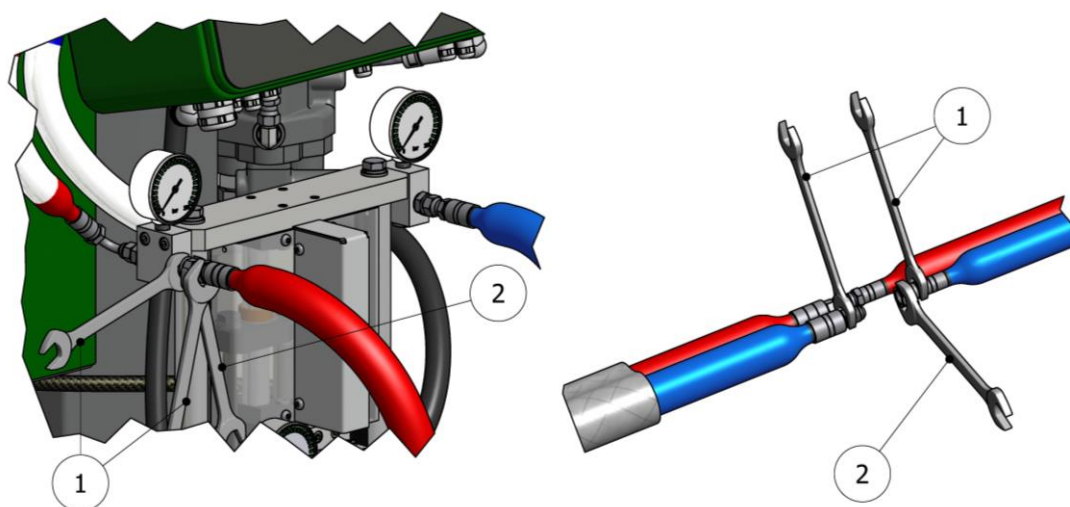

Figure 3. Hose coupling method
WARNING! To join hoses to each other, to the heaters, or to the gun, hold each hose end in place with a spanner (1), and with a third spanner tighten or loosen the coupling nut (2) as required (see Figure 3, pg.20). The tightening torque for these unions must be that indicated according to the procedure on page 29.
WARNING! To join hoses to each other, to the heaters, or to the gun, hold each hose end in place with a spanner (1), and with a third spanner tighten or loosen the coupling nut (2) as required (see Figure 3 on p. 20). The tightening torque for these unions must be that indicated according to the procedure on page 29.